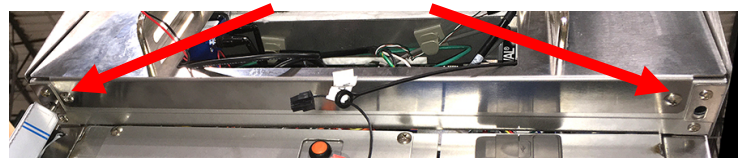
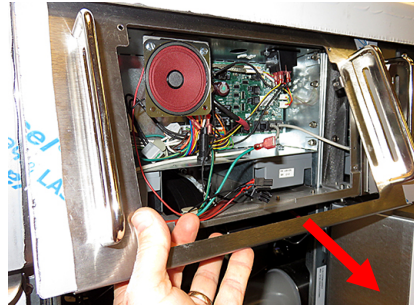

Figure 30
Figure 31
41. Remove the bezel by removing the two screws on the bottom of the bezel (see Figure 30) and tilting the bezel up from the bottom and lowering towards the front of the fryer (see Figure 31).